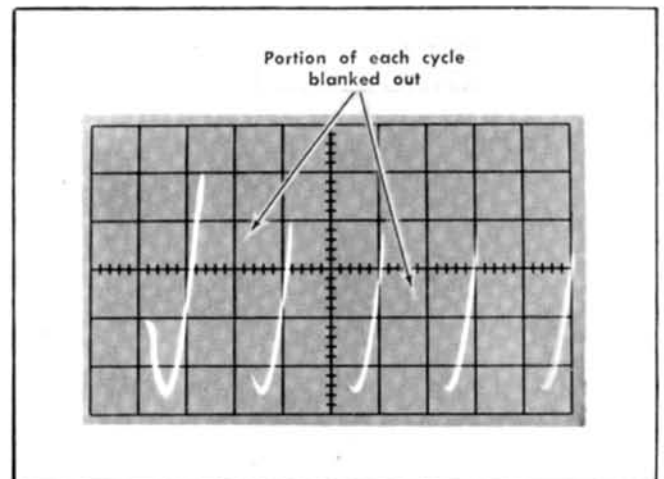

Fig. 6-20. Typical CRT display when checking external blanking.
- e. CHECK—CRT display for blanking of a portion of each cycle of the waveform (see Fig. 6-20). The INTENSITY control setting may need to be changed to show blanking.